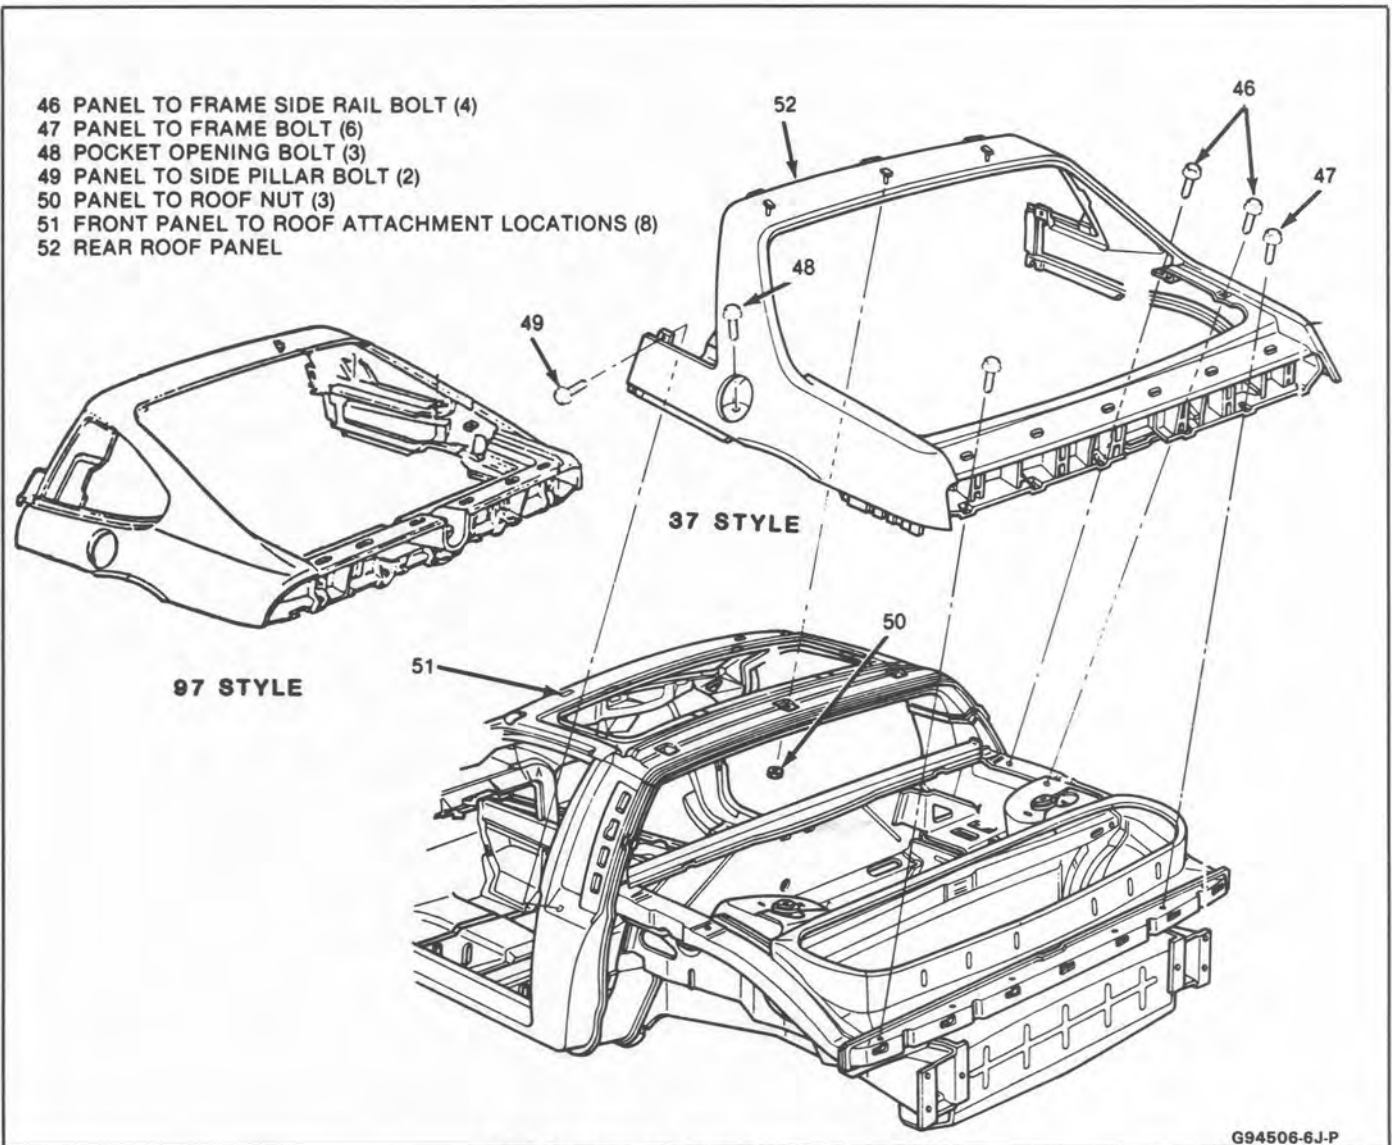

Fig. 17-Rear Roof Panel Assembly
**↔ Remove or Disconnect (Figure 17)**
5. Four rear roof panel to upper frame side rail bolts (46)
7. Six rear roof panel to frame bolts (47)
- 35 PUSH-PULL RETAINER (2)
16. Two rear roof panel to body side pillar bolts (49)
20. Three rear roof panel to rear roof nuts (50)
21. Eight front roof panel to front roof nuts and bolts (51)
23. Rear roof panel (52)
**⇔ Install or Connect (Figure 17)**
1. Rear roof panel (52). Align rear roof panel to rear roof fastener holes.
2. Eight front roof panel to front roof nuts and bolts (51)
3. Three rear roof panel to rear roof nuts (50)